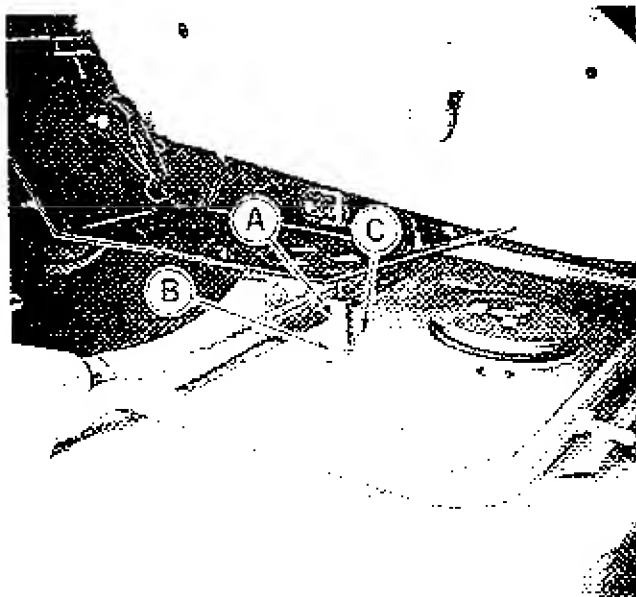

Figure 2. Lift cable attached to mower.
2. See figure 2. Slide the mower under the tractor as shown and center the mower lift eyebolt under lift cable (A).
3. Attach lift cable (A) to the mower lift eyebolt using pin (B) and spring clip (C).
7. See figure 2. Remove the spring clip (C) and pin (B) to unfasten lift cable (A) from the mower. Install pin (B) in the mower eyebolt for storage and place spring clip (C) through it.
The mower is lowered into position by using the tractor lift system. This may be either the manual lift lever or the optional electric lift switch. Lower the mower until the lift cable (Figure 2, Item A) is loose.